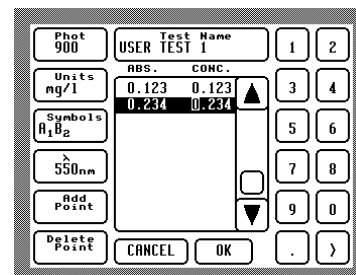

Figure 25 – Test Data Entry
- Touch **Edit**. The stored data for the test will be displayed (see Figure 25, Page 31).